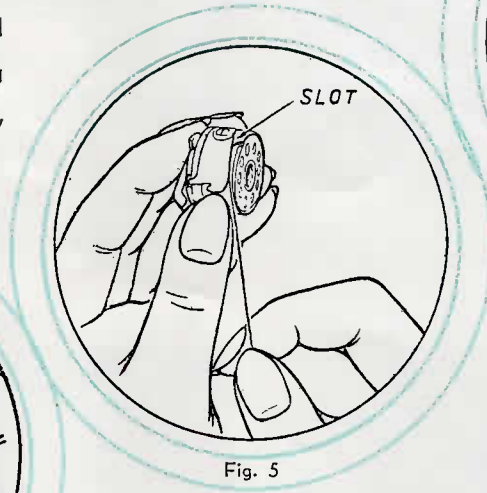
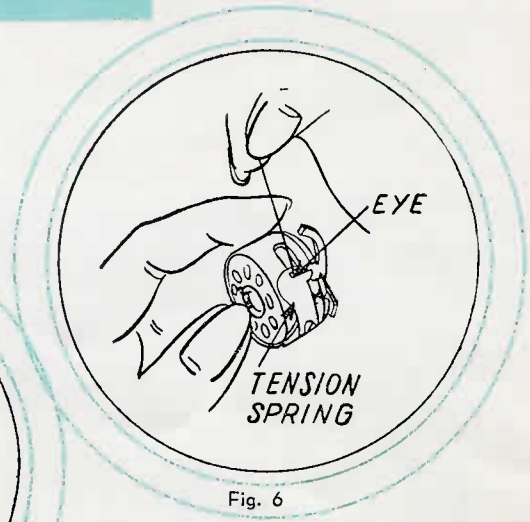

Fig. 5
Fig. 6
2. While holding the bobbin case as before, grasp the thread end with your right hand, and guide it into the cross slot (Fig. 5).
3. Then pull it through under the tension spring of the bobbin case (Fig. 5) until it enters the delivery eye, and then through the hole in the position finger (Fig. 6).